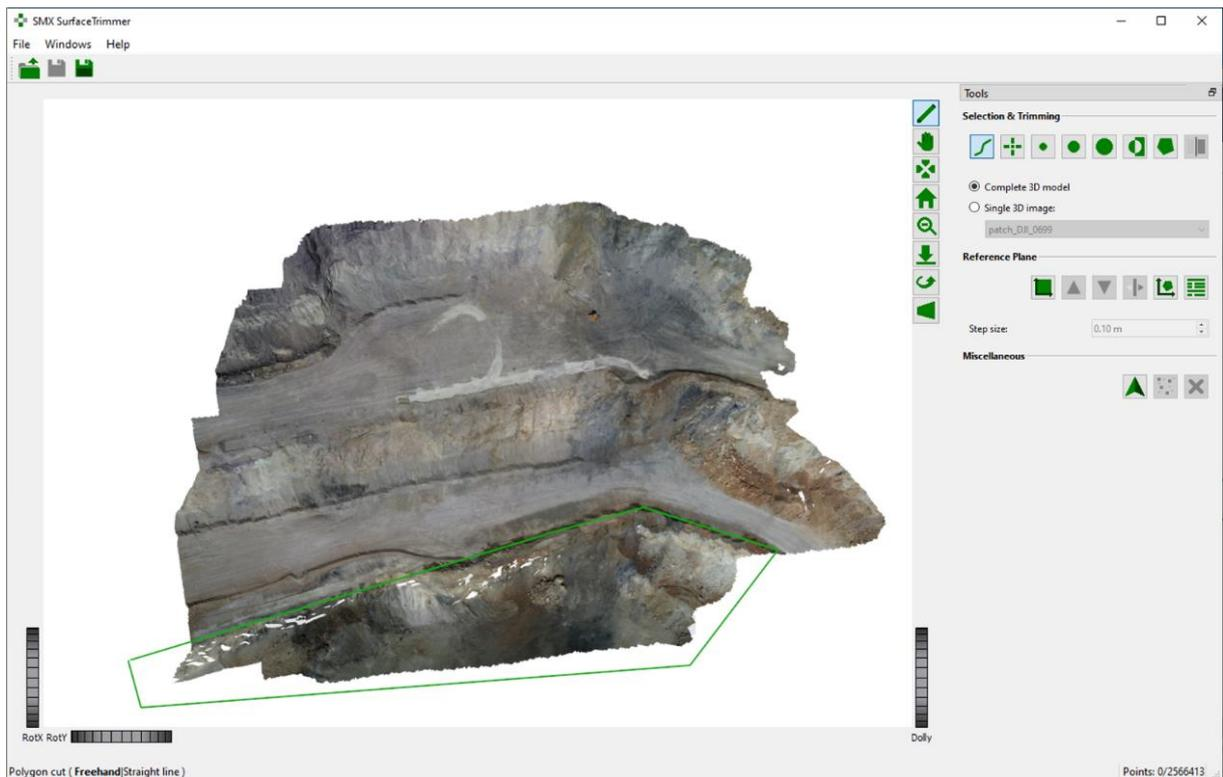

Figure 4: Region to delete enclosed by a polygon (green solid line)
2. Enclose the region to delete by dragging the cursor across the 3D model while keeping the left mouse button pressed (Figure 4). Release the mouse button and the selected region is highlighted in red (Figure 5).